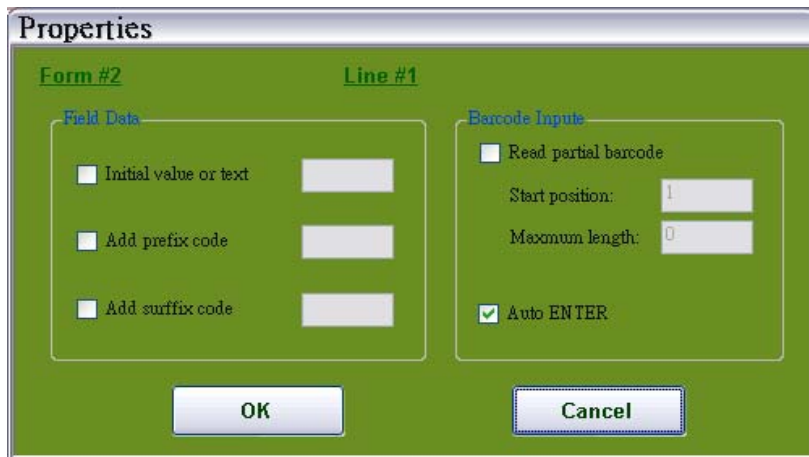

Figure 24
- Properties: please refer to figure 24.